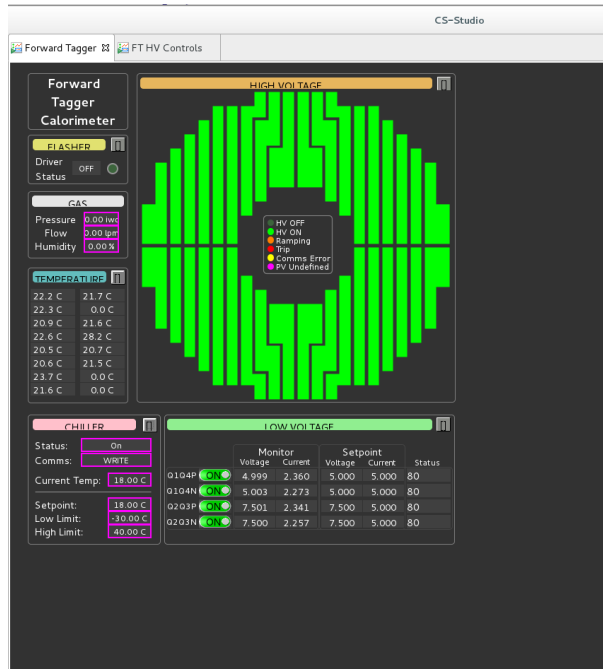

Figure 2: The primary EPICS screen needed for shift workers to monitor FT-Cal.
- **Temperature Sensors:** There are 16 temperature sensors in the FT-Cal enclosure to be monitored. Clicking on the grey square button in the top right of the temperature section the expert panel in Fig. 3 pops up. The strip charts shown in Fig. 4 are accessible from the two buttons in the temperature section of Figure 2.
no red groups in Fig. 2 and no ECAL HV alarms.
In case of an HV trip, or a red region in Figure 2: